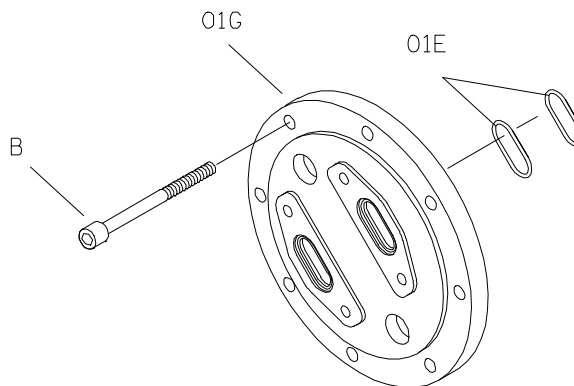

Figure E-2. Typical S Size Head Jacket
If your pump is equipped with an optional head jacket, see Figure E-2 and remove the capscrews (B) securing the head jacket (01G) and O-rings (01E) to the head assembly (01A, Figure E-1). Refer to Jacket Option Appendix H for Inlet and outlet location.